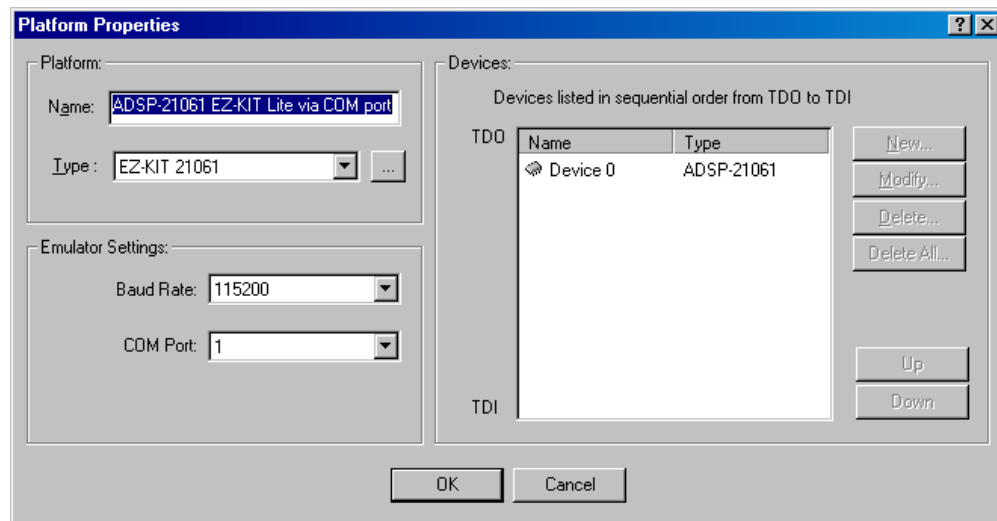

Figure 7-3 Platform Properties
2. In the **Platform Templates** box, high light the **ADSP-21061 EZ-KIT Lite via COM port**, click **Copy** button. Figure 7-3 will appear